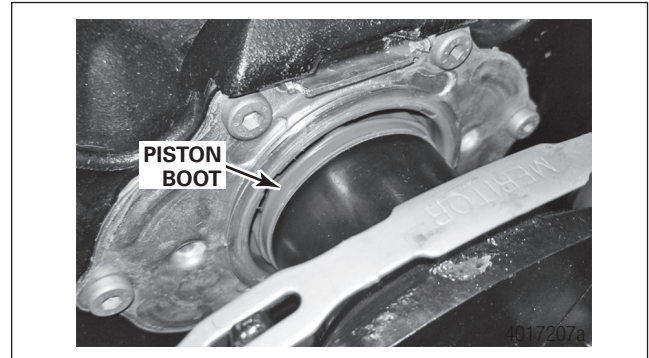

Figure 6.17 Piston Boot
- Inspect to see if boot properly seated. Check for rips, tears or holes. Figure 6.17.